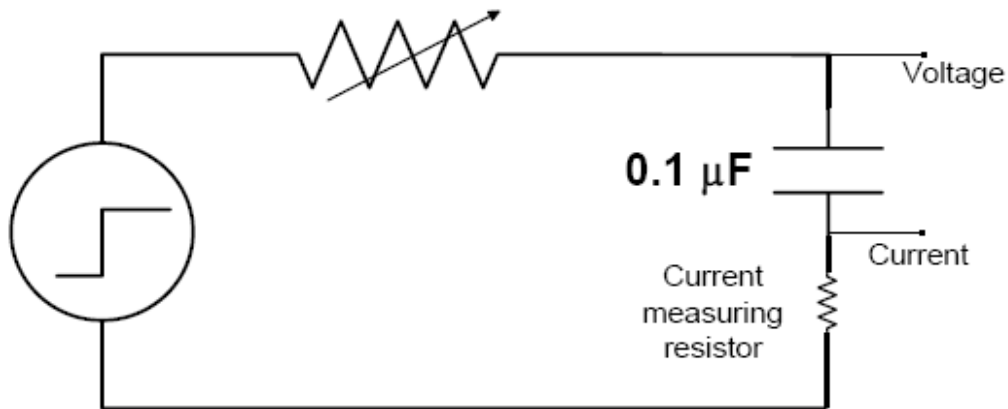

Fig. 1. The experimental R-C circuit.
- (a) Construct the R-C circuit of Figure 1. Use a 510Ω .